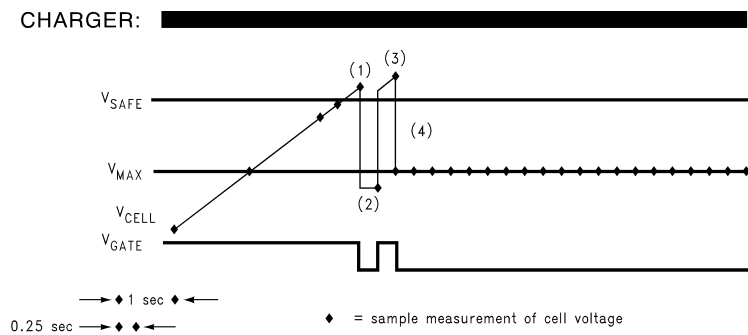

FIGURE 3. Termination of Illegally High Charging
Should a high charge current be applied to the pack near the end of charge, the cell voltage could exceed V_{SAFE} , which is approximately 100 mV greater than V_{MAX} (1), see *Figure 3*. On the first detection of a cell voltage in excess of V_{SAFE} , OVERCHARGE, the MOSFET pair will be turned OFF (2). The sample rate increases to 4 Hz after the first detection of $V_{CELL} > V_{MAX}$. It is desirable under these circumstances for the MOSFET pair to turn ON for only the shortest allowed time period, which is 0.25 seconds. Each sample exceeding V_{SAFE} causes the MOSFET pair to turn OFF (3). Should the cell voltage not drop below V_{MAX} after the MOSFET pair turn